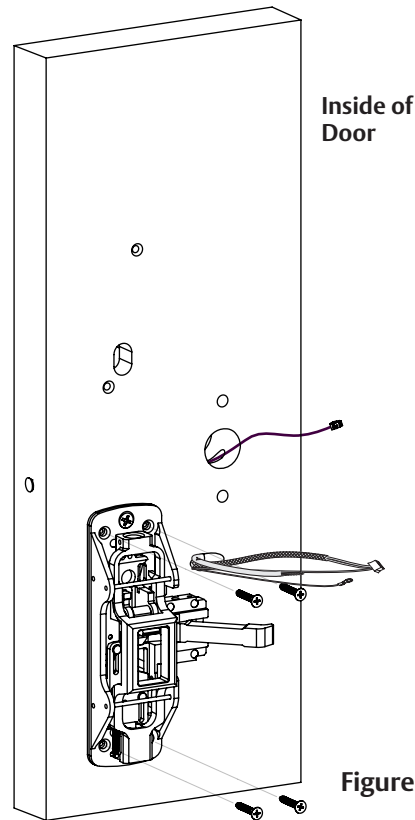

Figure 10-3C
6. Secure exit chassis (Figure 10-3C)